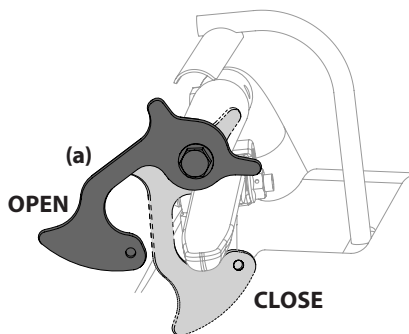

Figure 27
- Move the neutral lock levers (a) to the OPEN position. See Figure 27.
- Move the neutral lock levers into the CLOSE position. See Figure 27.
- Close the neutral lock levers (see Figure 27) and move the speed control lever to verify that there is no creeping. If the mower still creeps, try the adjustment again.